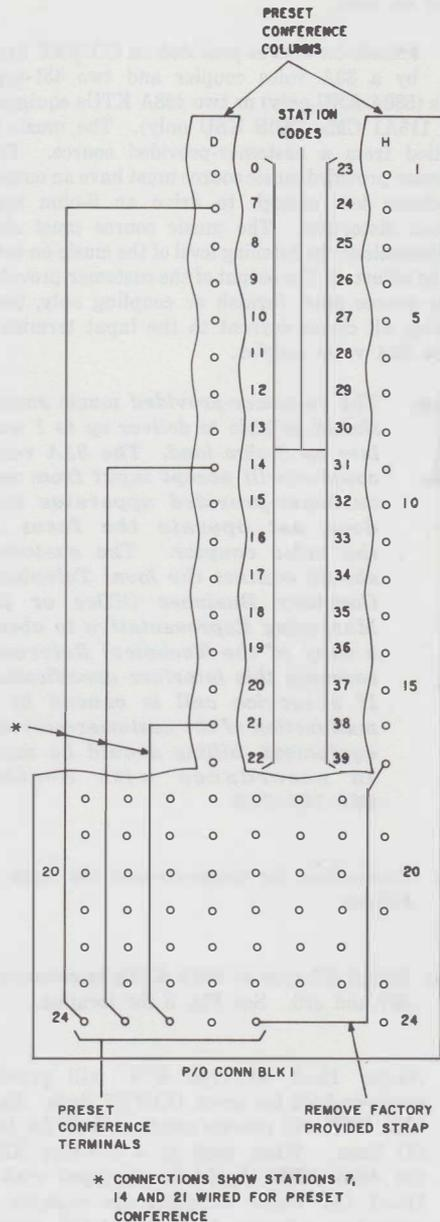

Fig. 28—Connections for Preset Conference on Intercom
- (1) Locate the preset conference terminals, row 24, on connecting block 1 (Fig. 28).
- (2) Locate the station code terminals, column D or H, on connecting block 1, and identify the terminals associated with the stations to be connected for preset conference (Fig. 28).
- (3) Remove the factory-provided strap between terminals E24 and H17.
- (4) Strap the terminals in the preset conference row to the desired station terminals in column D or H (Fig. 28).
- (5) Test the preset conference arrangement by having code 39 dialed from a nonconference station and verifying that all conferenced stations are signaled.